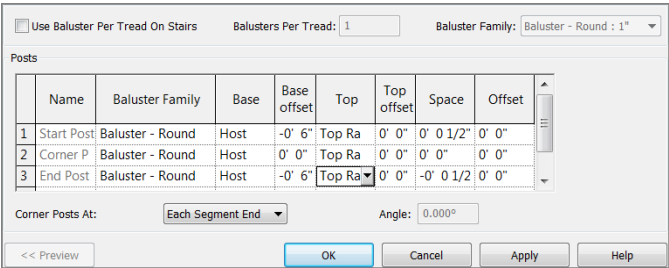

FIGURE 10.18: Setting the offset allows the post to extend to the floor where needed.
- 1. For Start Post (1) and End Post (3), type -6" (-150mm) for the base offset, as shown in Figure 10.18.